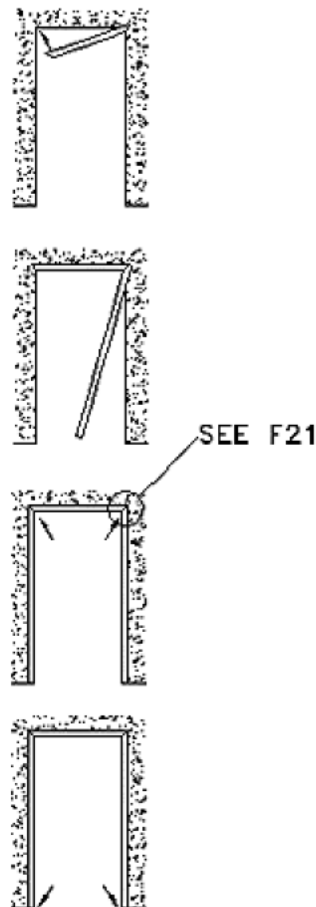

Figure 21
3. Installation Sequence: Installation varies from manufacturer to manufacturer. Consult the supplying manufacturer's literature for exact instructions. A typical installation cycle may be as follows: (Figure 21)